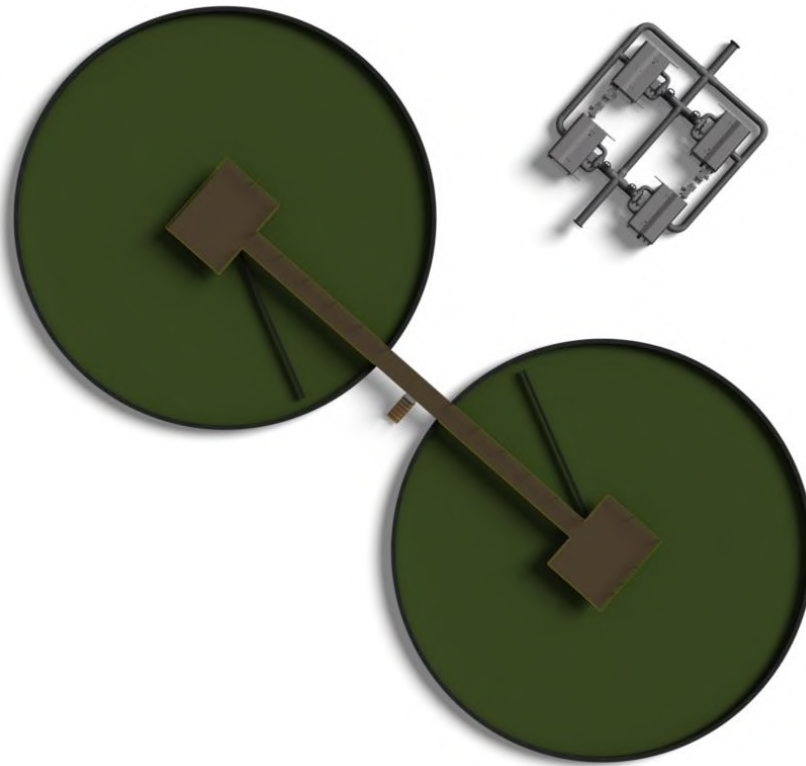

Figure 1. Mitcherson EcoSieve™ versus conventional primary clarifiers – less than 10% of the space required.
The EcoSieve™ is a high efficiency, high flow liquid solid separator that provides large scale primary treatment in an economical compact modular package. The EcoSieve™ is a mechanical device that screens suspended solids from incoming liquids. Captured solids are collected and dewatered and exiting liquids are filtered. The EcoSieve™ solid separation efficiency is typically between 40-70% removal of TSS for medium strength waste water making the EcoSieve a viable replacement technology for conventional gravity settling filters. Figure 1 shows the comparison of two primary clarifiers with a foot print of approximately 14,800 ft² where the (4) ES-3600 machines occupy only 1,368 ft². The EcoSieve technology in this example requires less than 10% of the real estate from conventional technologies. In addition an EcoSieve installation will typical cost only a fraction of the cost of conventional technologies, usually less than half. These huge cost and space savings make the EcoSieve™ the perfect solution for municipal plants that need to increase capacity of existing systems or looking to replace existing equipment that is near the end of its life cycle.